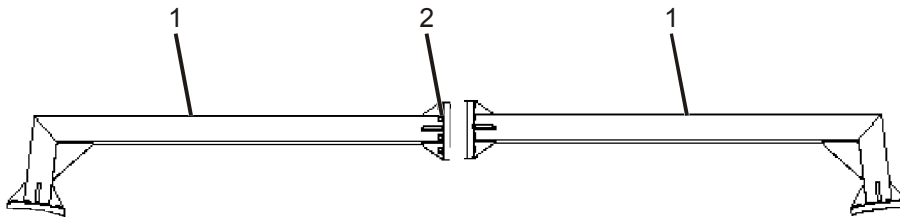

Figure 2-23. Upper Beam Connection
- b. Connect the two upper beams (1) to each other using eight bolts, spring washers, flat washers and nuts (2) (See Figure 2-23).